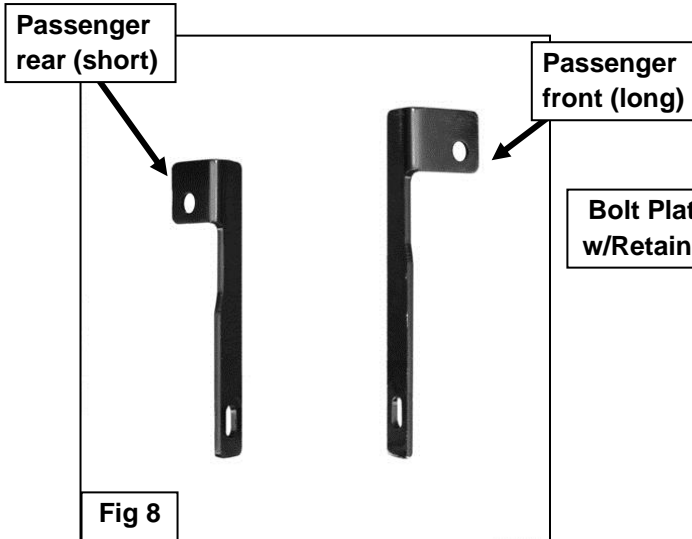
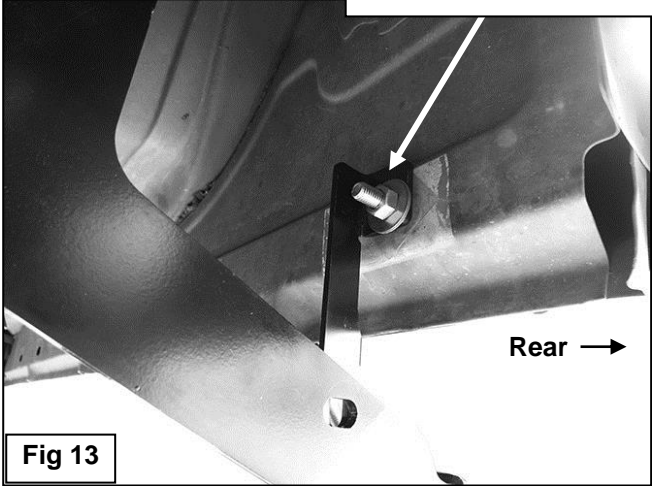

Fig 8
Fig 13
5. Select the passenger side front Support Bracket (long), **(Figure 8)**. Attach the Bracket to the Bolt Plate with (1) 10mm Flat Washer, (1) 10mm Lock Washer and (1) 10mm Hex Nut, **(Figure 9)**.
9. Remove the tape covering the hole in the inner rocker panel and install (1) Bolt Plate as described in **Step 5, (Figure 13)**. Select the passenger side rear Support Bracket, (short), **(Figure 8)**. Attach the bent end of the top of the Bracket to the Bolt Plate with (1) 10mm Flat Washer, (1) 10mm Lock Washer and (1) 10mm Hex Nut, **(Figures 13 & 14)**.